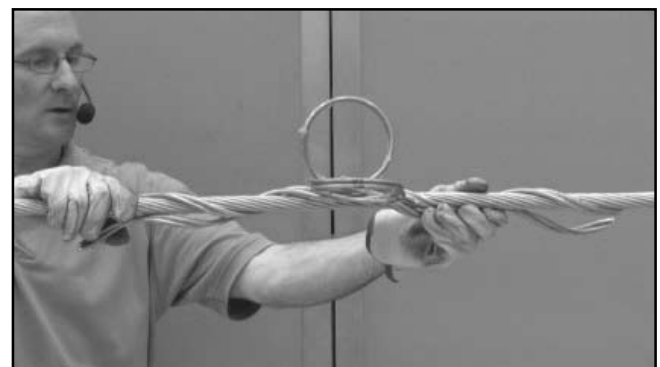

Figure 3
2.03 Continue installing the balance of the subsets, aligning the loops in the center and then wrapping on the legs. Evenly space the subsets to get a symmetrical orientation on the cable. (Figures 3 and 4)